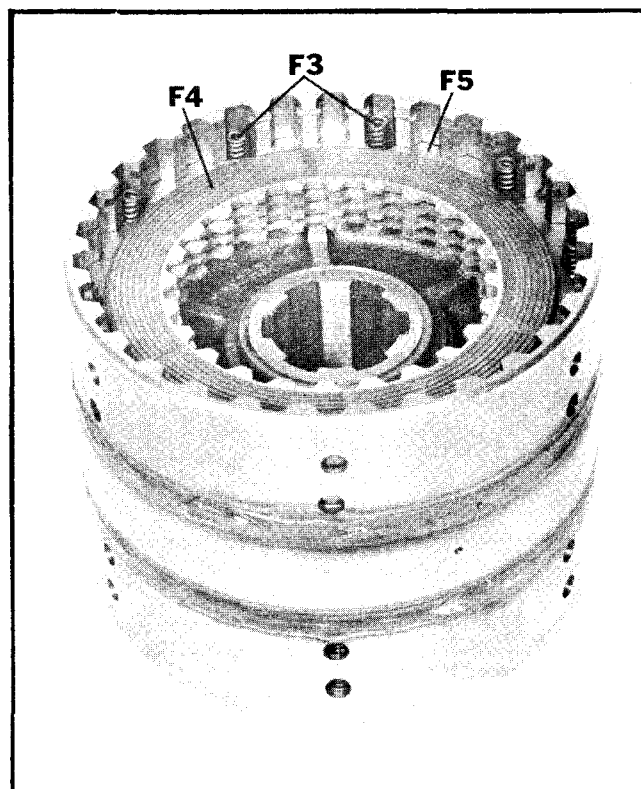

Figure 33
6. Install 10 release springs (F-3) and then continue to alternate driving plates (F-5) and clutch discs (F-4) until four of each are assembled into clutch housing (Figure 33).